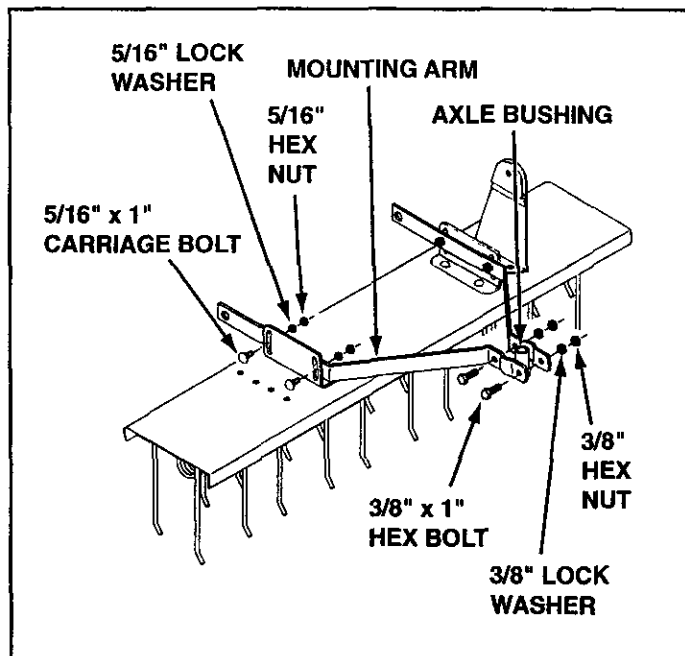

FIGURE 3
- Assemble mounting arms to inside of angle mounting brackets using four 5/16" x 1" carriage bolts, 5/16" lock washers and 5/16" hex nuts. **Do not tighten** until dethatcher is mounted to tractor. See figure 3.
- Loosely assemble front ends of mounting arms together using two 3/8" x 1" hex bolts, 3/8" lock washers and 3/8" hex nuts. Place axle bushing between front ends of mounting arms, centering bushing up and down. **Tighten bolts securely** in front ends of mounting arms. See figure 3.
- Loosen carriage bolts through mounting arms and angle brackets. (Refer to figure 3 on page 5.)